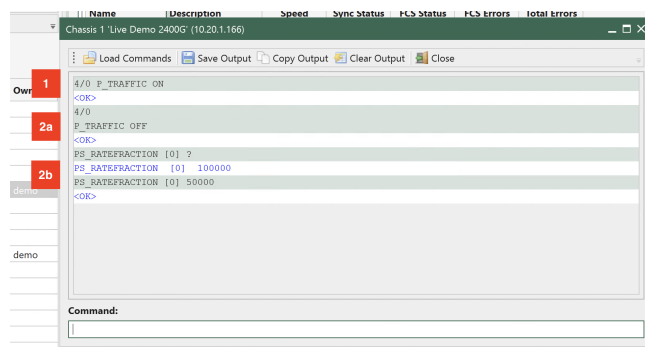

Fig. 4.31: Use the Script Client
Once the script client is open, you can directly input script commands. The use of the script client is illustrated in Fig. 4.31.
1. Writing the <MODULE>/<PORT> in front of the command. (See Fig. 4.31 - step 1, which illustrates how to apply the command to module 7 and port 0).
2. First, enter the <MODULE>/<PORT> (Fig. 4.31 - step 2a). Subsequently, enter the commands, which will then be executed on the module and port previously configured (Fig. 4.31 - step 2b).
Because the module and port will depend on the chassis configuration, all script commands in the following will be listed without the module and port values, i.e. to use the script command examples directly in the script client, the user is required to configure the <MODULE> / <PORT> in advance as illustrated in Fig. 4.31 - step 2a.